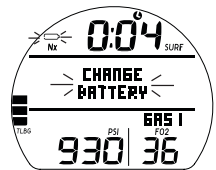

Fig. 4 - LOW BATTERY
- Upon surfacing, the Battery icon (shell only) and graphic CHANGE BATTERY flash for 10 minutes (Fig. 4), then the unit shuts Off completely.